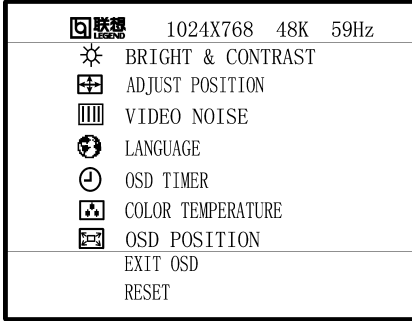
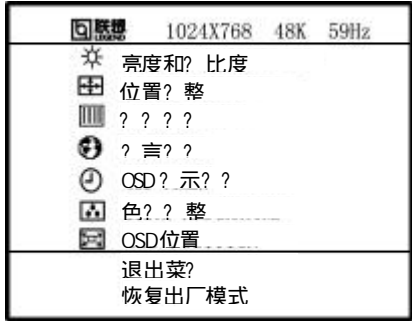

Figure 5 English OSD Message
Figure 6 Chinese OSD Message
The monitor controls are accessed by pressing button MENU to enable OSD (On-Screen-Display). The main menu will be displayed as follows (see figure 5 ). If OSD window is in Chinese when power on (see figure 6), press the Contrast/UP Key or Brightness/Down Key to choose the next window. Choose the English, then press MENU Key for confirming. OSD window will display in English.
1. Press the MENU-Key to show the OSD window. See figure 6.